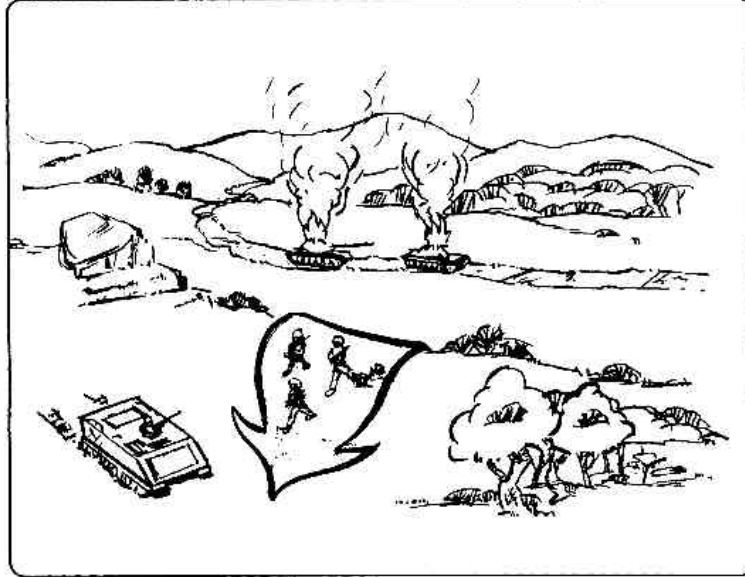

Figure 3-32. Example of mobility using an M113.
f. Control and Mobility. Teams should be under control of the commander who is responsible for the sector they are occupying. The Dragon section leader or team leader will be in control of his element. He makes recommendations to the commander about employment and or deployment. Mobility of the armor killer-teams should be equal to or greater than the enemy's mobility. Mobility may be gained by the use of M113s or by well-planned routes for dismounted teams through terrain that restricts vehicular movement. (See Figure 3-32.) Teams may also be delivered into and extracted from their ambush positions by helicopter.